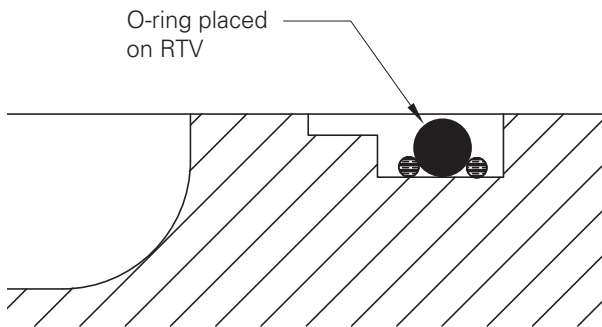
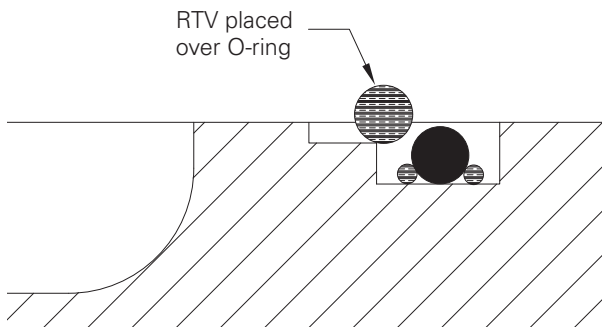

Figure 13
Figure 14
- 4.5.6.4 Install the O-rings (I.D. and O.D.) on top of the sealant, working them into position so that they lay flat in the bottom of the groove. See Figure 13. A second bead of sealant 0.060" - 0.090" (1,5 mm - 2,3 mm) in size should then be applied in the shallow groove. See Figure 14.